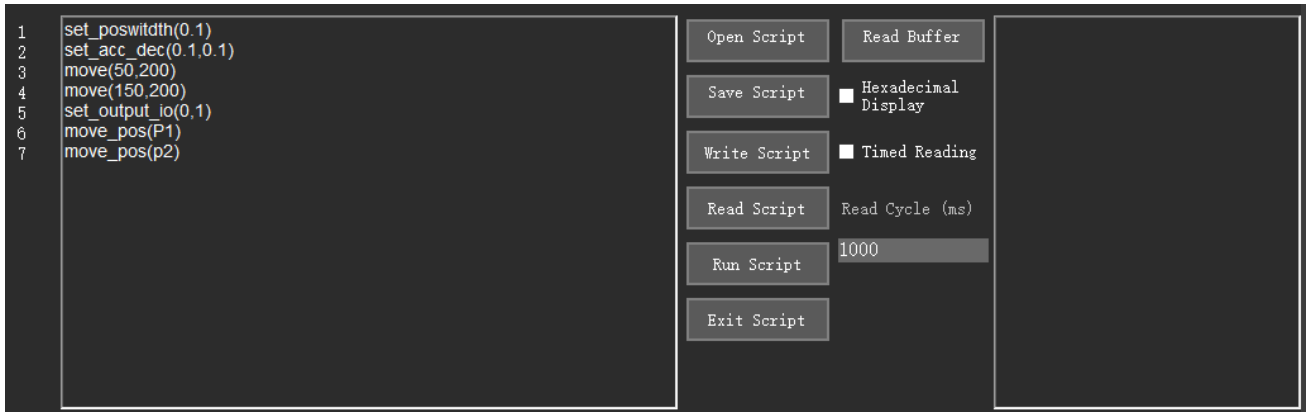

Figure 3-35
16. Refer to Figure 3-35 for getting input I/O status instruction. The input parameter is the I/O number "io_number", and the return value represents the status: 0 for closed, 1 for open
Figure 3-35 shows the script programming code.